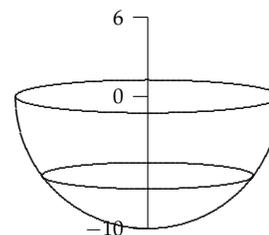

Figure 8.4: The tank with its position re-imagined and a representative layer.
**Solution.** It will be easiest to set up the equation of the hemisphere if we think of the top of the tank at height 0 and then pump the oil to a height of 6 feet. See Figure 8.4.